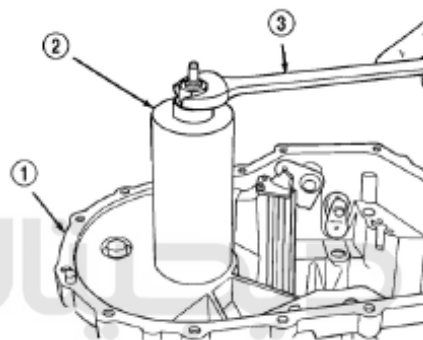

Figure 3-104 Assembly of tool cap
(3) Cover the tool cap on the tool (Figure 3-104).